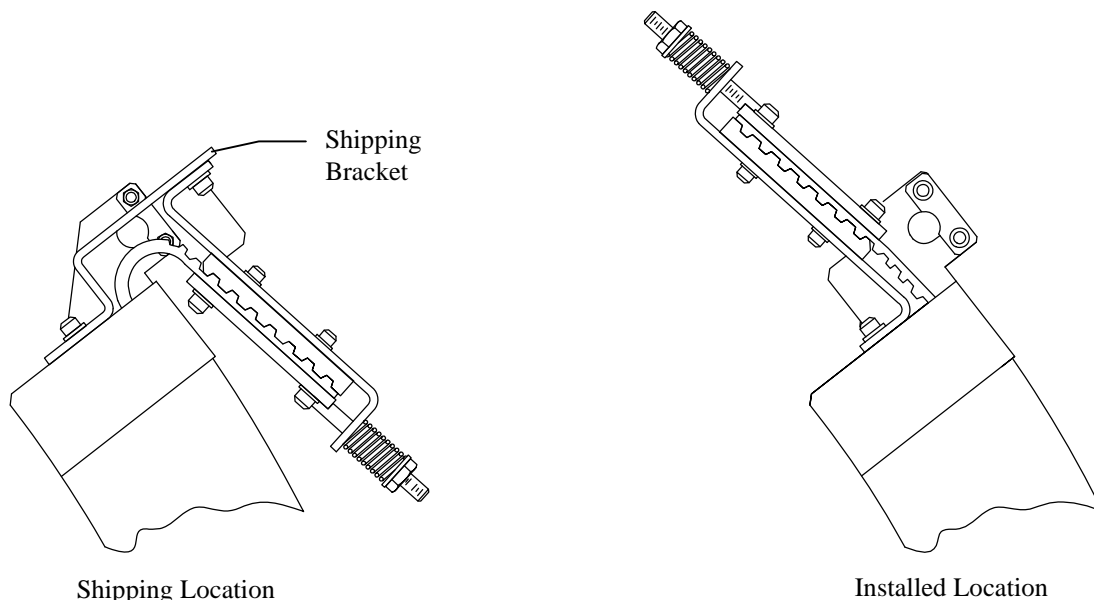

Figure 3-20. Repositioning the Belt Tensioning Mechanism
WARNING: Do not remove C-arm shipping brackets (Figure 3-20) until done.
1. Refer to Figure 3-20. Reposition the belt tensioning mechanism. The belt tensioning mechanism is turned around to facilitate shipping and moving the assembly (the shipping bracket is not used after the mechanism is repositioned).
14. Remove the four C-arm shipping brackets (see Figure 3-20). Save these brackets, they are needed if the tank is ever removed.